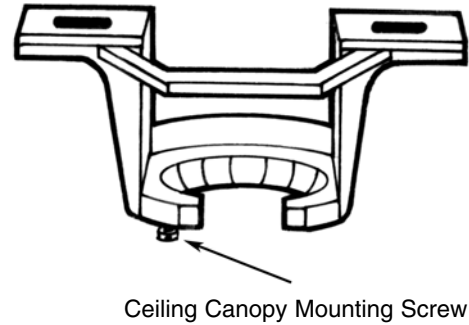

Fig. 1
- ❖ Loosen the two canopy mounting screws on the downside face of the mounting bracket. Back them out about half way. This will allow for easier installation of the ceiling canopy later (*see figure 1*).